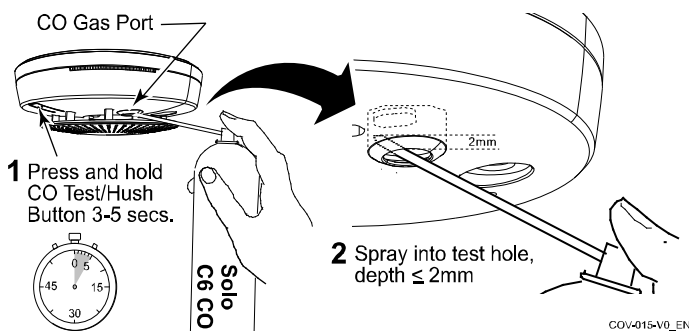

Figure 6. CO Detector Functional Test
1. Depress and hold the CO Test/Hush button for approximately 3-5 full seconds. Refer to Figure 6.
3. Spray a very small amount of **Solo™ C6** canned CO directly into the gas test hole (Refer to Figure 6). Solo™ C6 is available through many security equipment vendors.